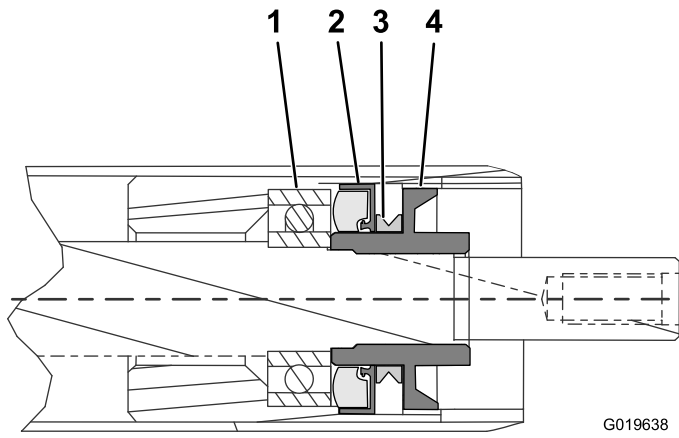

Figure 7
20. Install a nut with a V-ring onto each end of the roller (Figure 7).